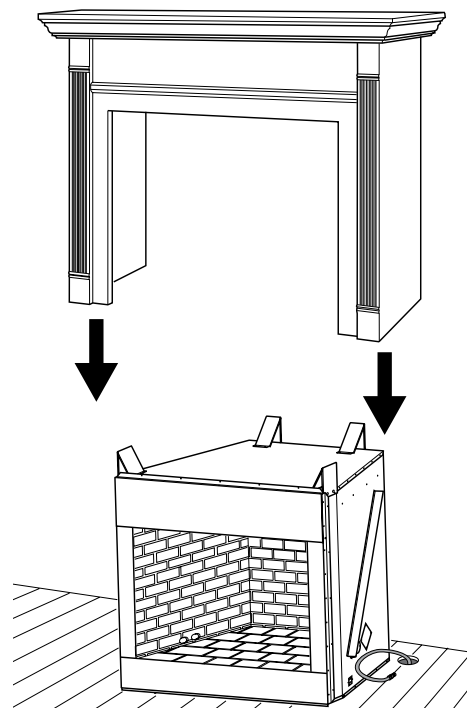

Figure 12 - Inserting Firebox into Cabinet Mantel (Mantel May Vary From Illustration)
4. Carefully slide cabinet mantel over firebox. Be careful not to scratch firebox, cabinet mantel, flooring, etc., when installing (see **Figure 12**).